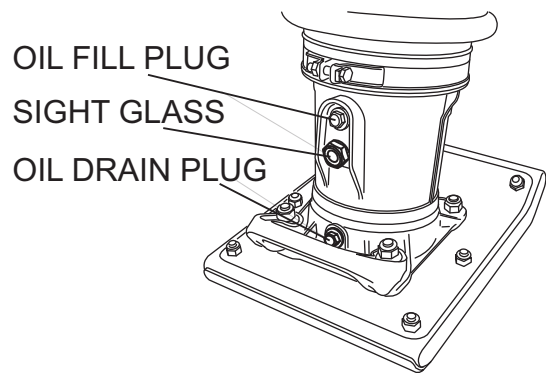

Figure 13. Oil Drain Plug
- Remove the oil drain plug on foot housing (Figure 13) and drain the oil. Refill with approximately 1.7 pt. (800 cc.) of 10W-30 SE, SF or higher grade motor oil. Oil should be midway in sight glass. Break in oil should be changed after first 50 hours.